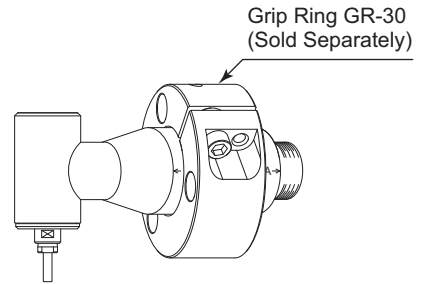

Fig. 6
- * When installing a Spindle, use a " Grip Ring GR - 30 (sold separately) " (Fig. 6) recommended. If the Grip Ring GR - 30 (sold separately) cannot be used due to the restriction of dimension and space, install as shown in ② below.